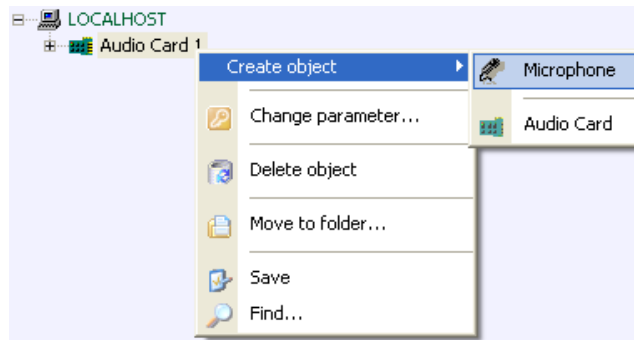

Figure 3.1-15 Context menu of the Microphone object
1. Select **Create object** -> **Microphone** in the context menu of the **Audio card** object (Figure 3.1-15).